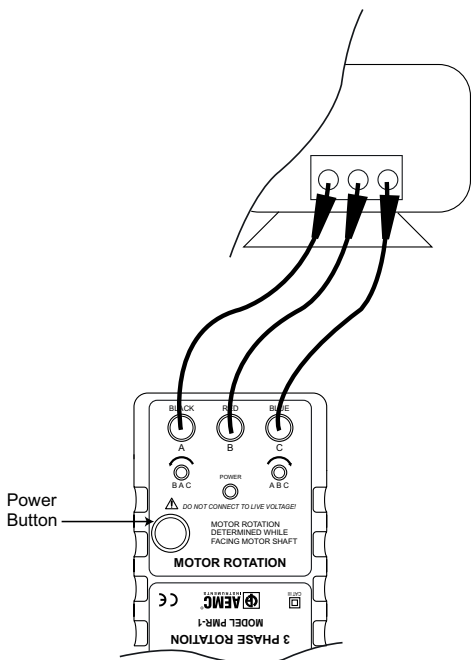

Figure 2
2. Connect the test leads to the motor input terminals in the following order: Black to “A”, Red to “B” and Blue to “C”. Then press the power button (see Figure 2). The power indicator Green LED should light.